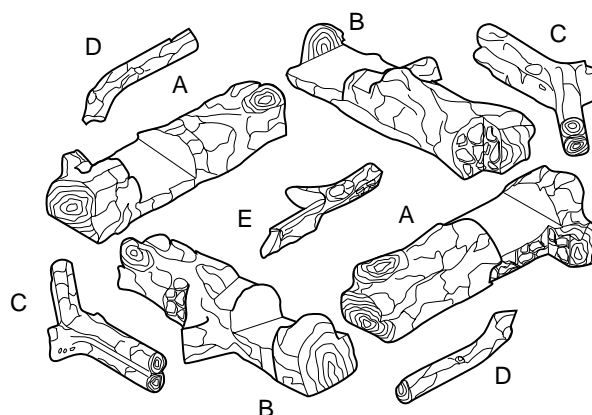

Figure 42 - Log Set (9 Pieces)
6. Figure 42 shows the log set. Logs “A” have the knot at the end of the log. Logs “B” have the knot at the middle of the log. Twigs “C” have the shape of a “Y”. Twigs “D” have the shape of bent twigs. Twig “E” is a straight twig which is placed across the top of Logs “B”.